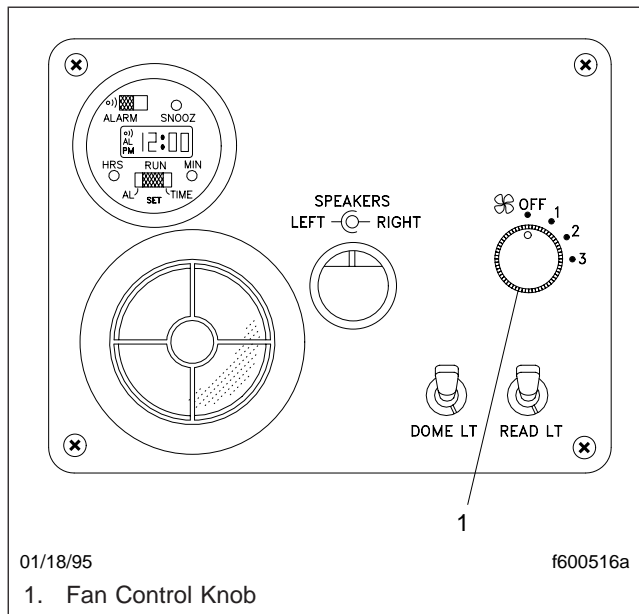

Fig. 4.10, Control Panel for Manual Temperature Control System
1. If equipped with the manual temperature control, do the following (**Fig. 4.10**):